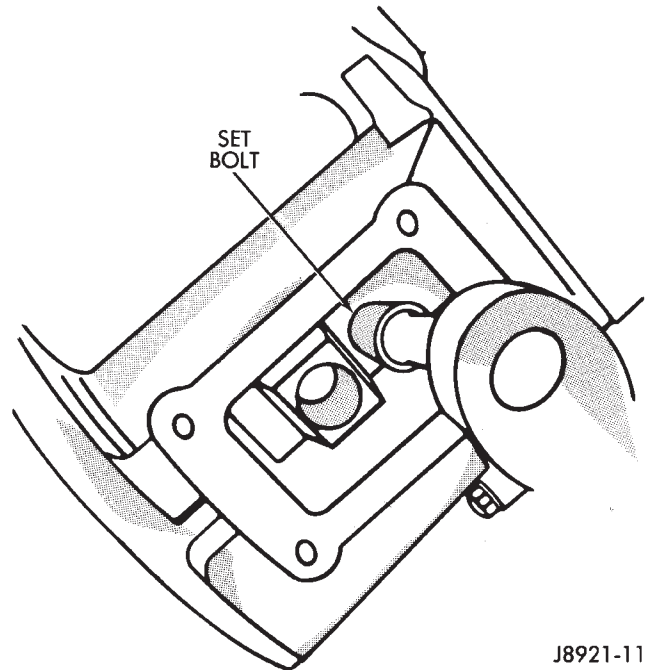

Fig. 11 Set Bolt Removal
(6) Remove shift arm set bolt (Fig. 11) and remove bolt and lockplate.